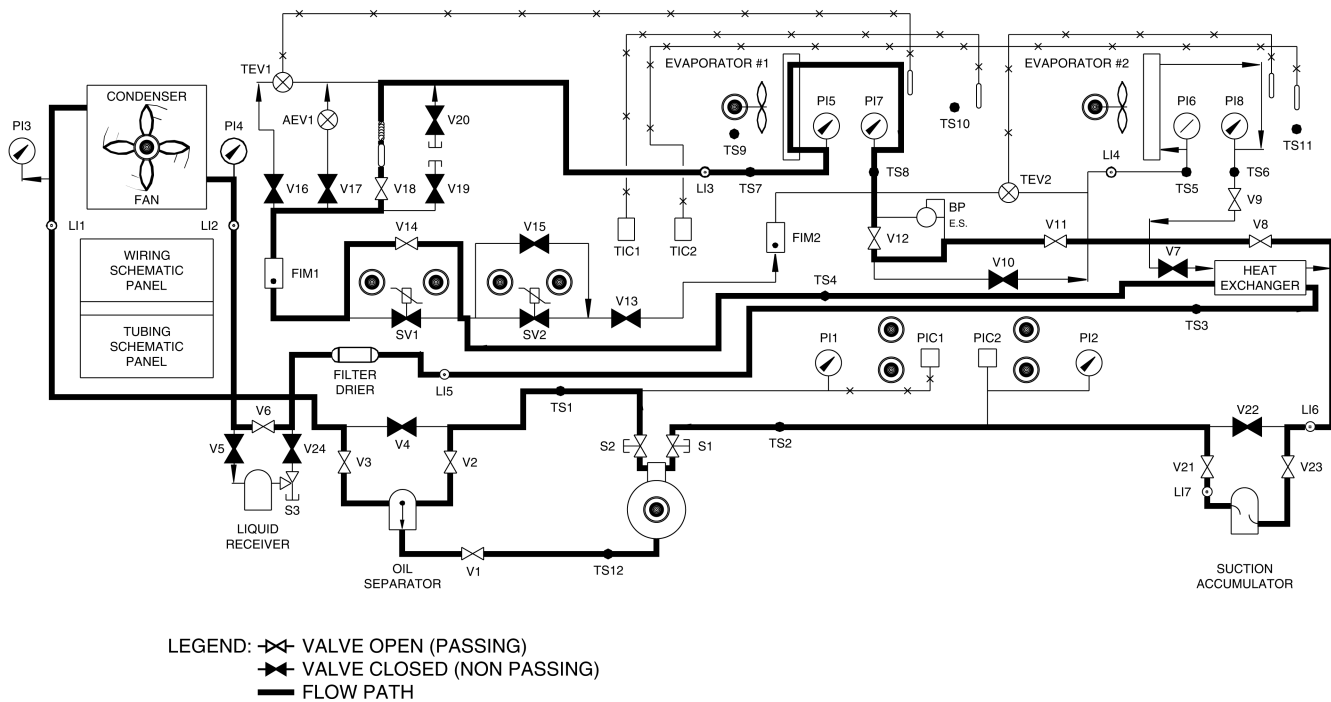

Figure 1-4. Valve configuration.
- ☐ 3. Adjust the following manual valves as indicated below (refer to Figure 1-4):